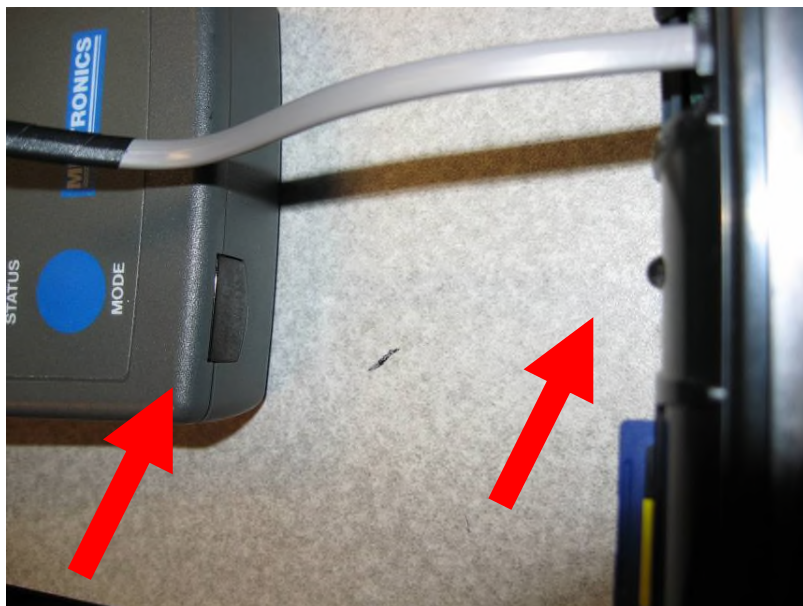

Figure 6
5. Attach serial port jumper to J3. See figure 6